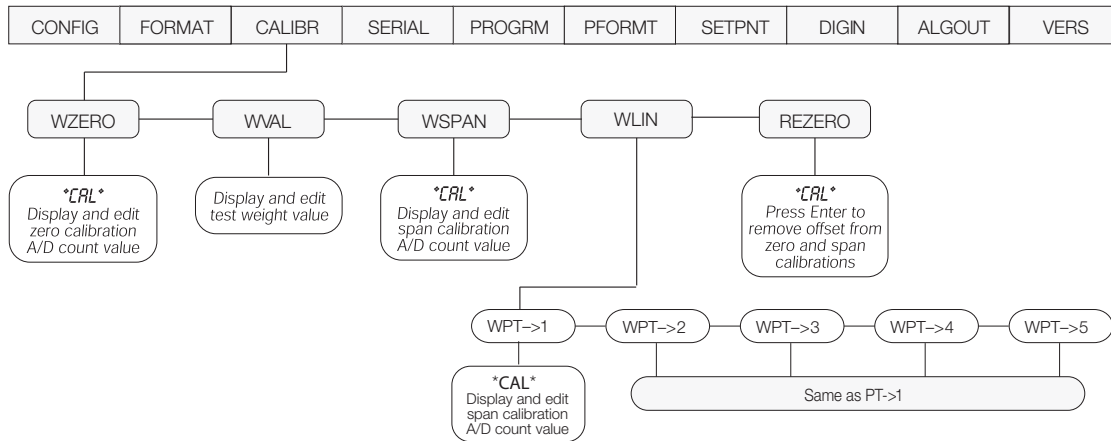

Figure 1-1. Calibration (CALIBR) Menu
2. Press  $\triangleright$  until the display reads *CALIBR* (see Figure 1-1). Press  $\nabla$  to go to zero calibration (*WZERO*).